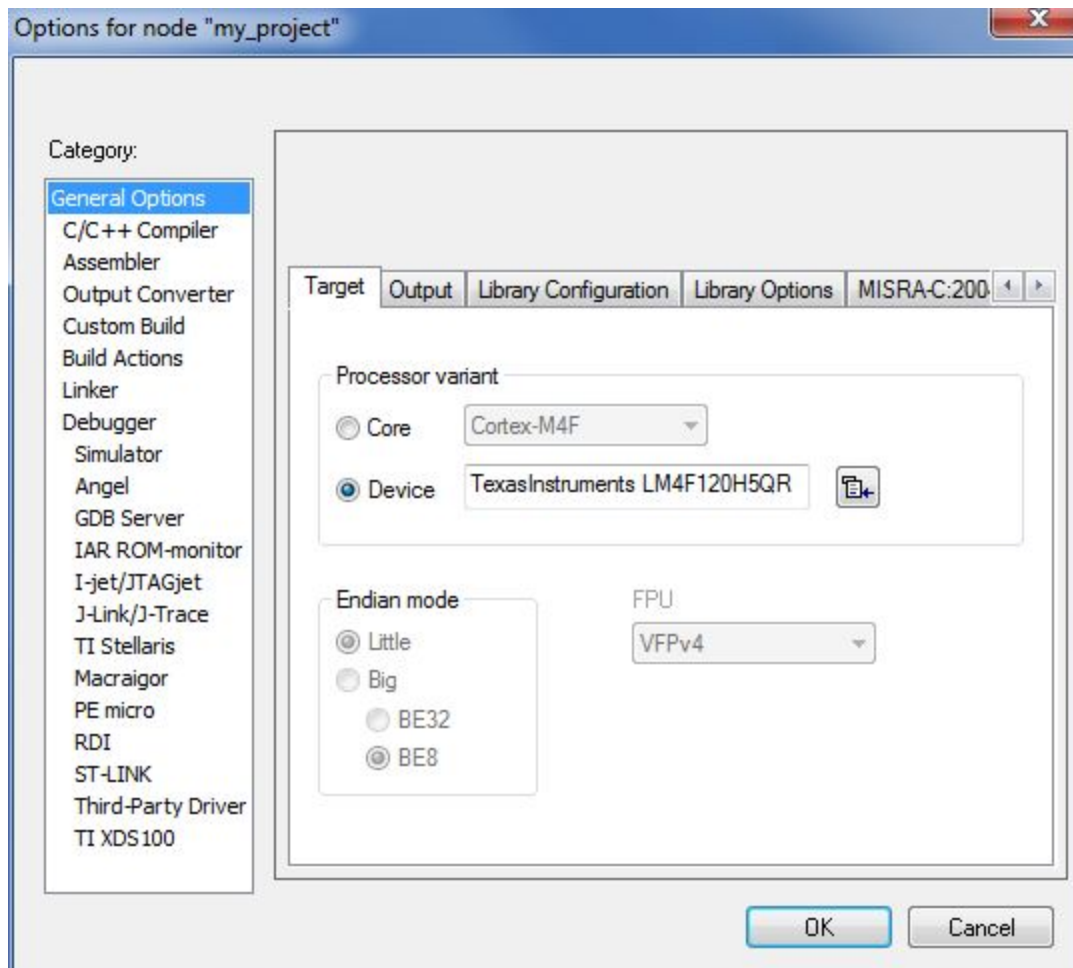

Figure 10.
2. Select the device that most closely fits your board (see Figure 10).